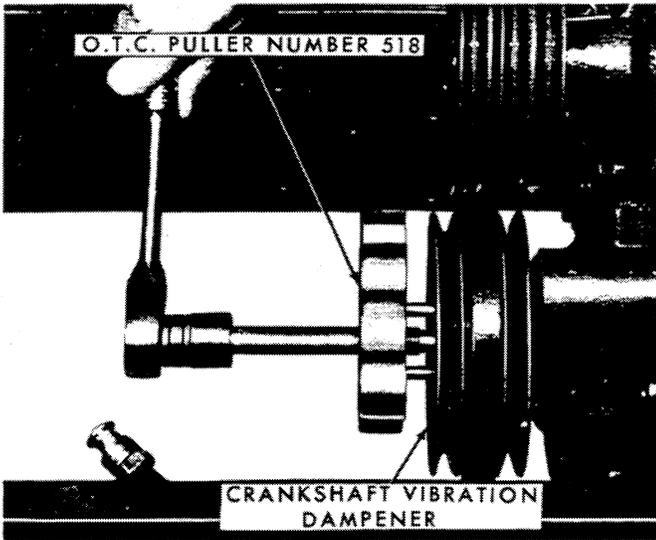

Figure 40
2. Remove the oil pan, oil pump, flywheel, and rear cover plate. Remove the crank bolt and washer. Remove the damper pulley which is a force fit on the crankshaft using the two bolts which secure the hydraulic pump coupler to the pulley in conjunction with Tool No. OTC 518, as shown in Figure 40.